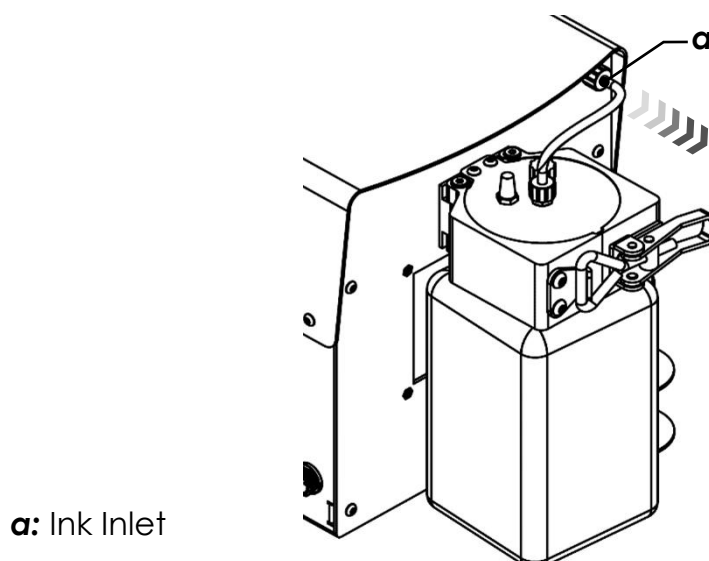

Figure 53
- 5) Remove the tube from ink inlet and hold it up to drain the ink inside the filter and tubing with gravity (See Figure 53).